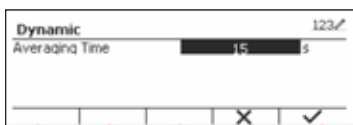

Figure 79
2. Press the softkey corresponding to the  icon. Then enter desired value using keypad. (See Figure 79)